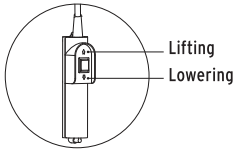

FIG.5
1. To operate the power switch hold the control handle in your hand. Press the upper side of the power switch to roll the cable (lifting the load). Press the lower side of the power switch to unroll the cable (lowering the load). Avoid quick ON and OFF sequences (figure 5).